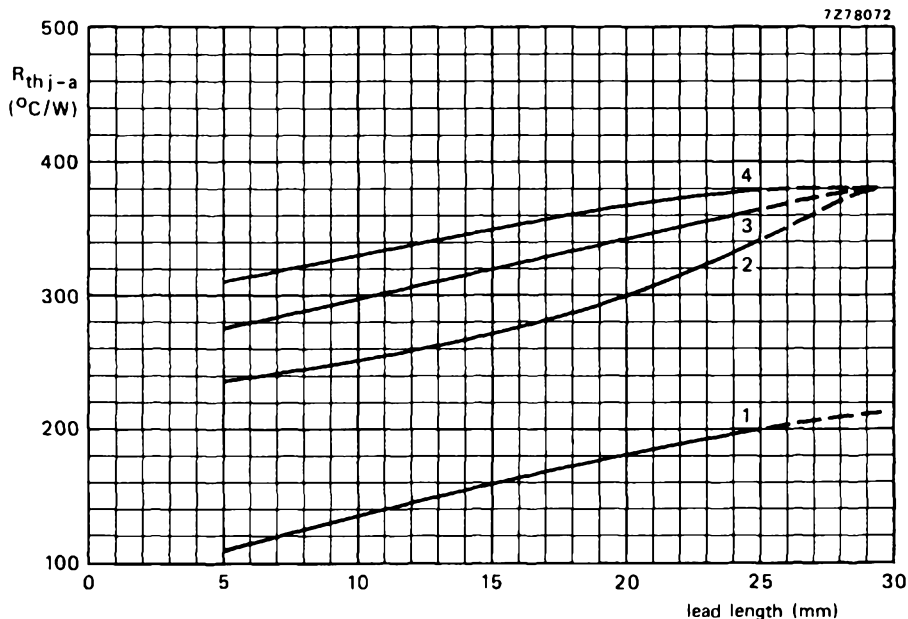

Fig. 2 Thermal resistance as a function of the lead length for various mounting.
1. Mounted as given in Fig. 2 the thermal resistance  $R_{th\ tp-a}$  is 70 K/W.
see Fig. 2